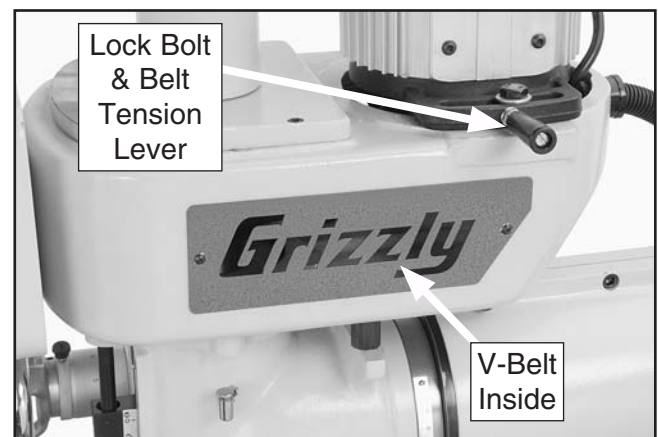

Figure 59. V-belt tension adjustment bolt.
2. Using a 17mm wrench, loosen the lock bolt, push firmly and hold the belt tension lever toward the rear of the machine and retighten the lock bolt (**Figure 59**).